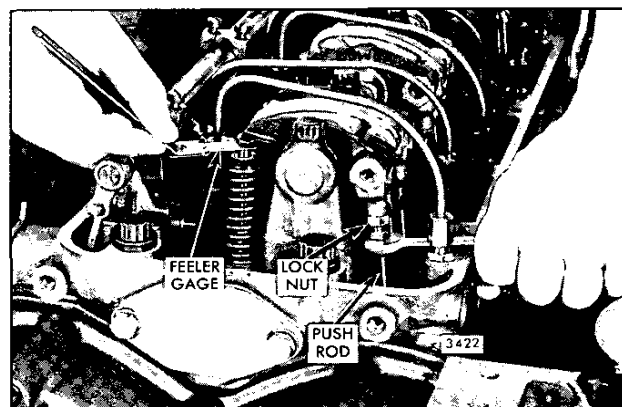

Fig. 1 - Adjusting Valve Clearance (Two Valve Head)
5. Place an .011" feeler gage (J 9708-01) between the exhaust valve stem and the rocker arm (Fig. 1). Adjust the push rod to obtain a smooth pull on the feeler gage.